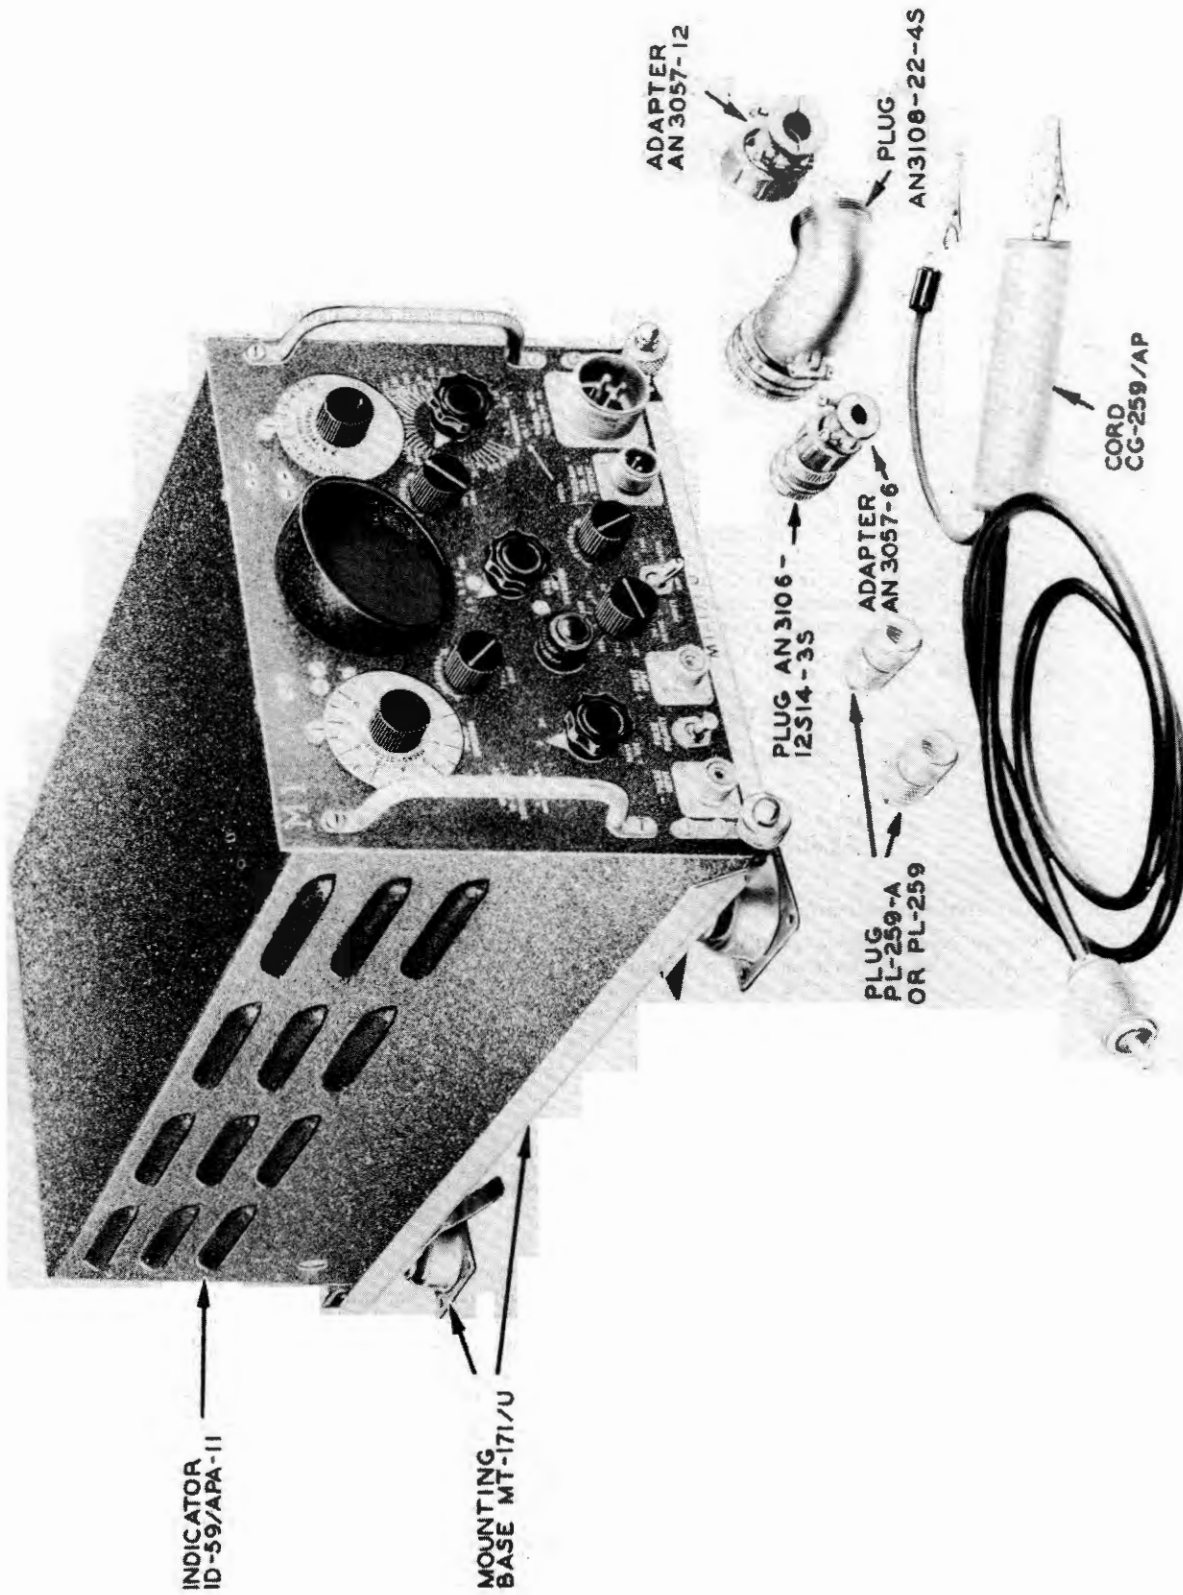

Figure 1-1. Radar Indicator Assembly AN/APA-11—Major Components
a. Radar Indicator Assembly AN/APA-11 (see figure 1-1) is designed for airborne use to assist in the identification and location of radar installations which operate on a pulse repetition frequency between 200 and 6000 cycles per second. This equipment operates when supplied with either a positive or a negative pulsed signal. It is used in conjunction with Receiving Equipment AN/APR-1, AN/APR-4, Radio Set SCR-587-A, Photographic Adapter AN/APA-7, or similar equipment. It is a pulse analyzer with three modes of operation. Two modes permit the analyzing and identifying of pulses.
b. MOUNTING BASE MT-171/U.—This is a shock-mount base designed to hold Indicator ID-59/APA-11 in place in the aircraft. (See figure 1-1.)